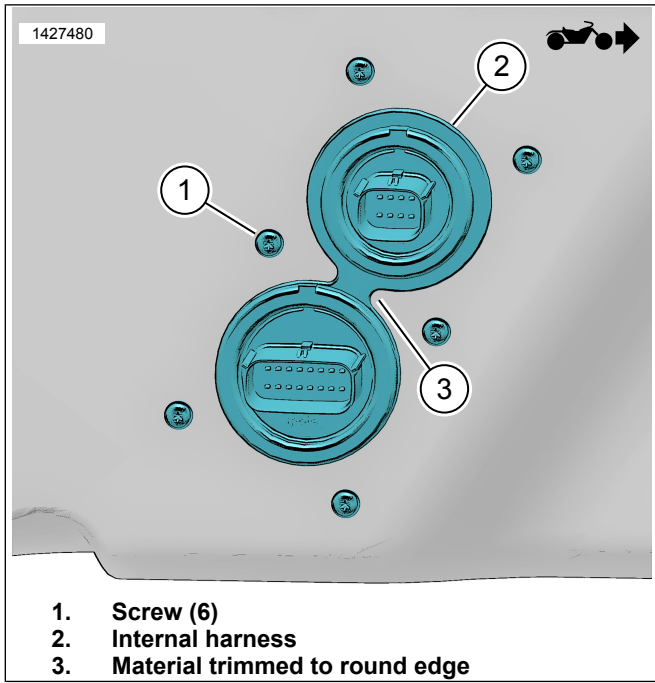

Figure 3. Inner Harness
- d. See Figure 3. Trim material to round edge (3).
11. See Figure 3. Install internal harness (2).